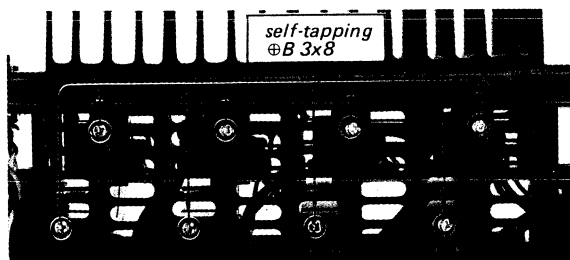

Fig. 2-15 Heat sink removal
3. Remove the four self-tapping screws ( $\text{Ø} B 3 \times 8$ ) securing a pair of heat sink to the chassis as shown in Fig. 2-15.